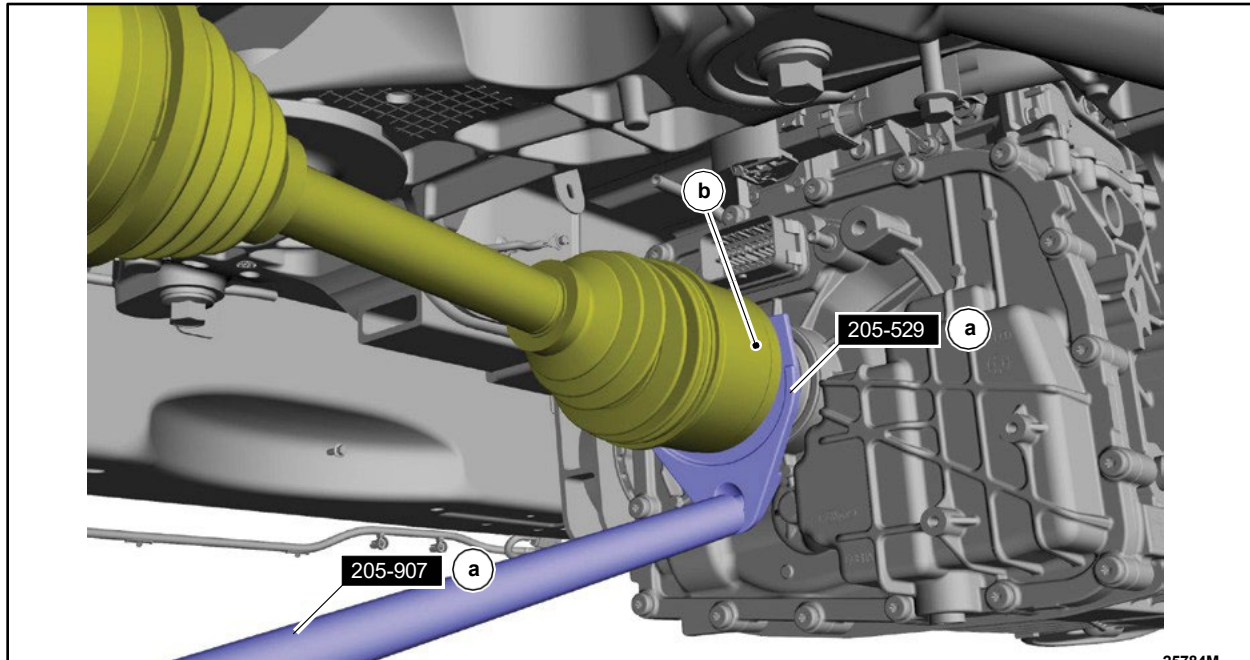

FIGURE 17
21. Using the special tools, release the right-hand (RH) halfshaft from the rear electric drive assembly. See Figure 17.